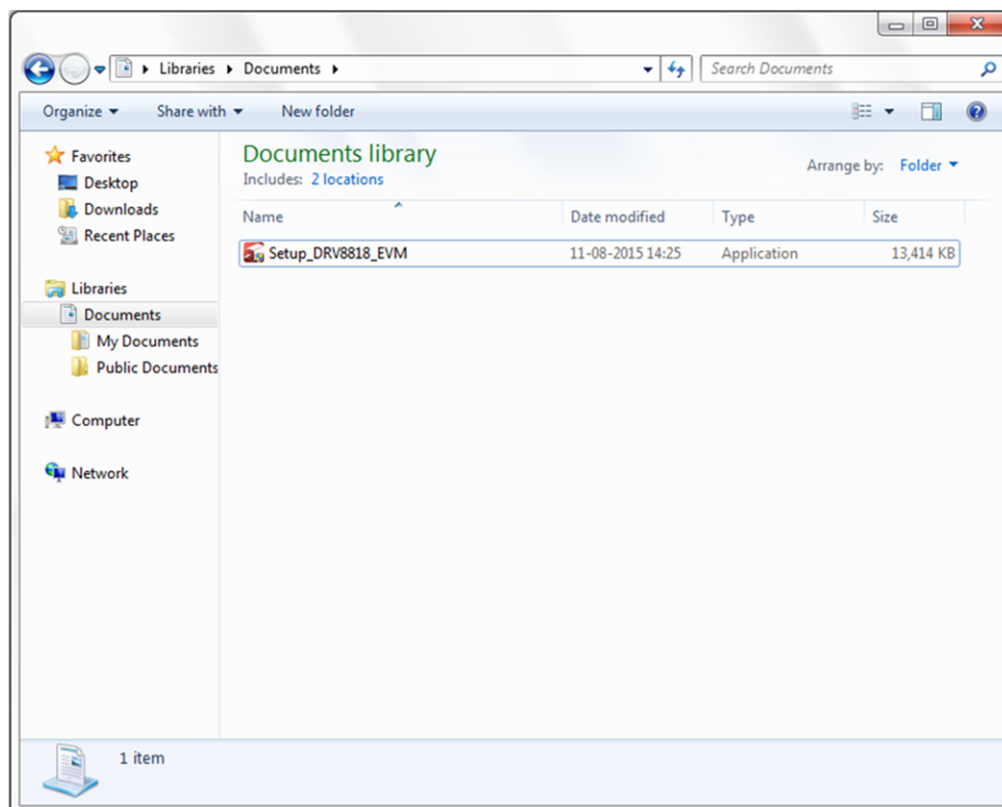

Figure 1. Setup_DRV8818_EVM.exe
1. Double click on the **Setup_DRV8818_EVM.exe** as shown in Figure 1.